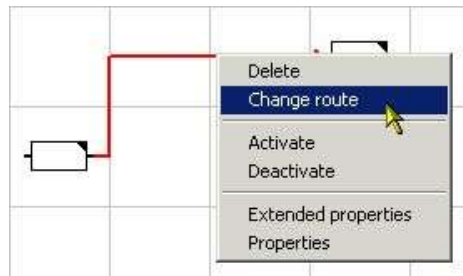

Figure 39: Connecting Line – Change Route Contextual Menu
In the Figure 39 below, the first process is moved downwards. By using these two functions, you can change the route of the connecting line.
- 2) Press the right mouse button to open the contextual menu. Please refer to the Figure 39.